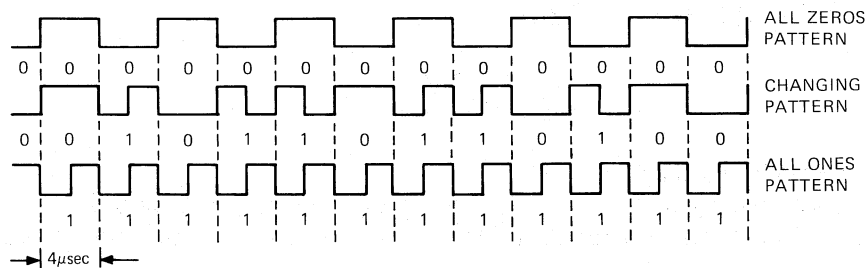

Figure 1-7 Flux Reversal Patterns for FM
1.5.2.1 Double Frequency (FM) – For the double frequency recording scheme data is recorded between bits of a constant clock stream. The clock stream consists of a continuous pattern of one flux reversal every four μs (Figure 1-7). A data “one” is indicated by an additional reversal between clocks (i.e., doubling the bit stream frequency; hence the name). A data “zero” is indicated by no flux reversal between clocks.
A continuous stream of ones, shown in the bottom waveform in Figure 1-7, would appear as a “2F” bit stream, and a continuous stream of zeros, shown in the top waveform in Figure 1-7, would appear as a “1F” or fundamental frequency bit stream.